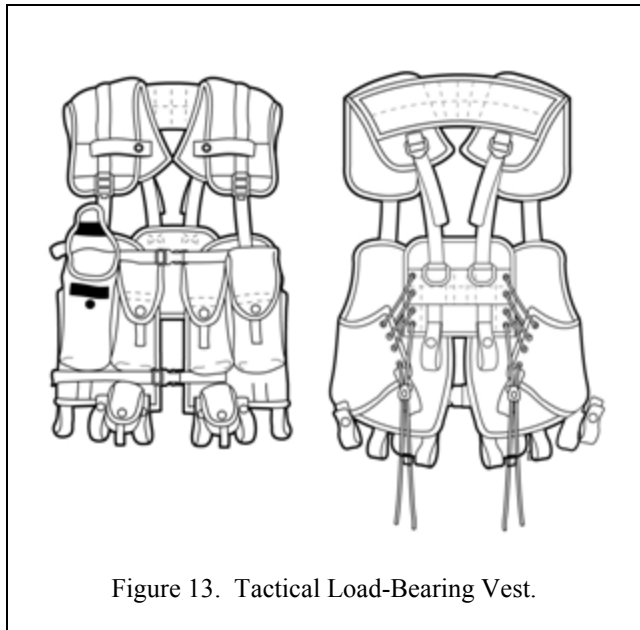

Figure 13. Tactical Load-Bearing Vest.
**Tactical Load-Bearing Vest (Replaced by MOLLE II TM 10-8465-236-24&P).** The Tactical Load-Bearing Vest (Figure 13) is made of a seven-ounce nylon fabric and weighs 1.8 lbs. empty. The vest is compatible with the standard equipment belt. The equipment belt is secured to the vest with 10 belt loops that use both hook-and-loop fasteners and snaps. The vest has four permanently attached ammunition pockets that can carry six 30-round magazines. The pocket covers are secured by one snap and a strip of hook-and-loop. A pull tab is used to open the pocket. Located below the ammunition pockets are two fragmentation grenade pockets. The shoulders are protected by 1/2-inch foam padding. The vest closes in front with two chest straps using plastic quick-release buckles. There are two 2 1/4-inch webbing and two D-rings sewn to the back of the vest that can be used as equipment attachment points.